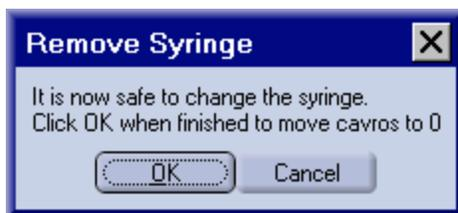

Figure 10-19. Remove Syringe Message Prompt.
3. When the plungers are fully retracted, a message box (Figure 10-19) will appear indicating that you may now safely change the syringe.